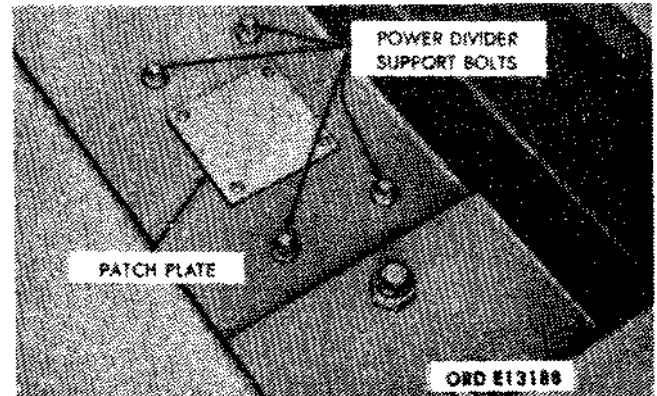
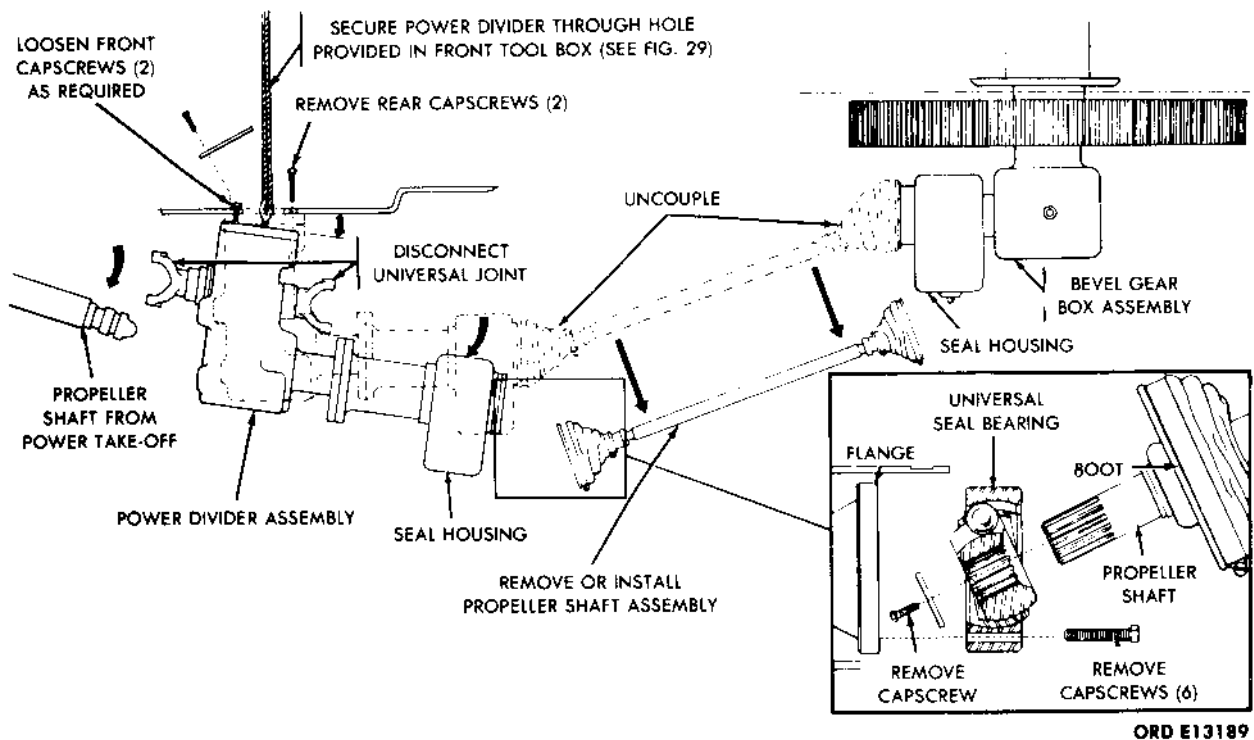

Figure 2-260. Patch over power divider assembly.
Figure 2-261. Propeller shaft assembly replacement.
(1) Disconnect the power takeoff-to-power divider propeller shaft from the drive shaft yoke at the front of the power divider.
(2) Disconnect the rear winch front propeller shaft from the winch output shaft yoke at the rear of the power divider.
(3) Disconnect the power divider controls.
(4) Remove the patch plate above the power divider assembly (fig. 2-260), and secure the power divider assembly with a suitable lifting device as shown in figure 2-261.
(5) Remove the clamps and slide back the composition dust seal attached to the seal housings at each end of the propeller shaft (fig. 2-261).
(6) Remove the capscrews from the flange couplings at each end of the propeller shaft.
(7) Loosen the power divider support bolts. Lower the power divider slightly to provide clearance and permit removal of the propeller shaft from the seal housings as shown in figure 2-261.
(1) Install the propeller shafts in position in the seal housings (fig. 2-261).
(2) Raise the power divider up into position, tighten the support bolts securely, remove the lifting device, and replace the patch plate above the power divider assembly (fig. 2-260).
(3) Install the capscrews in the flange couplings at each end of the propeller shaft (fig. 2-261). Position the composition dust seal housings, and secure them with clamps.
(4) Connect the power divider controls.
(5) Connect the rear winch front propeller shaft